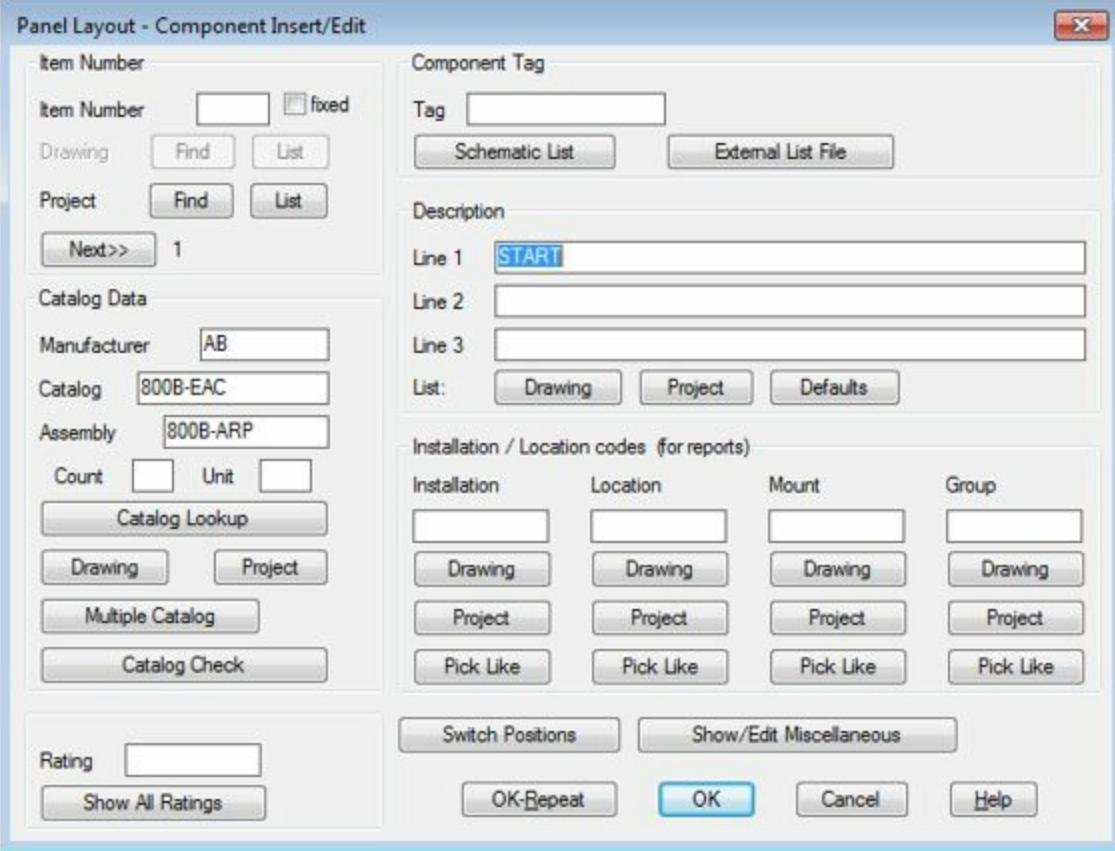

Figure-10. Panel Layout Component Insert or Edit dialog box
- Specify the desired angle or press **ENTER** to use the default angle (i.e. 0 degree). The **Panel Layout-Component Insert/Edit** dialog box will be displayed; refer to Figure-10.